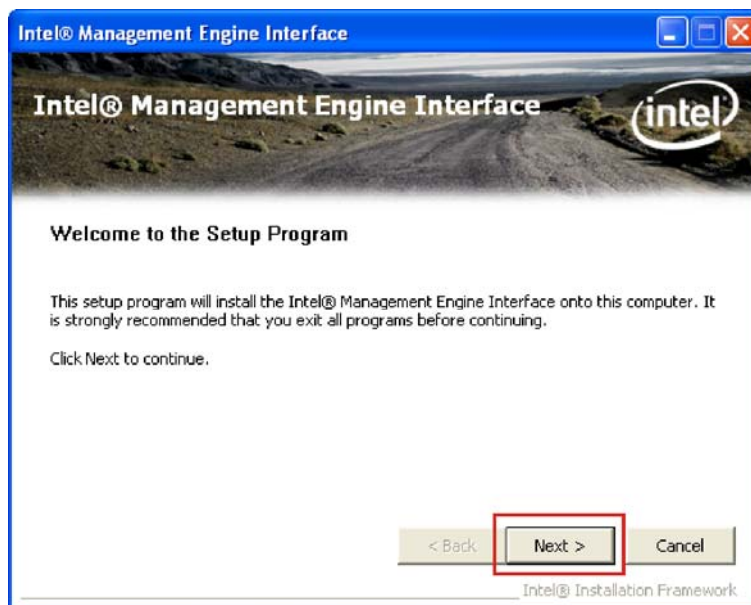

Figure 7-34: AMT HECI Welcome Screen
Step 3: Double-click the setup file (**Figure 7-34**).
Step 4: The welcome screen appears (**Figure 7-34**).